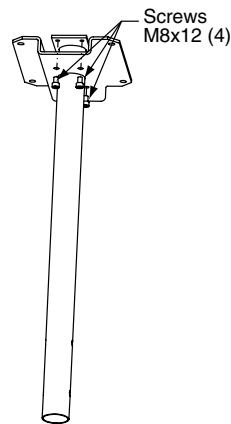

Figure 1
- ① Slide upper column down through ceiling mounting plate, and attach upper column to ceiling mounting plate using M8 x 12 screws (see Fig. 1).